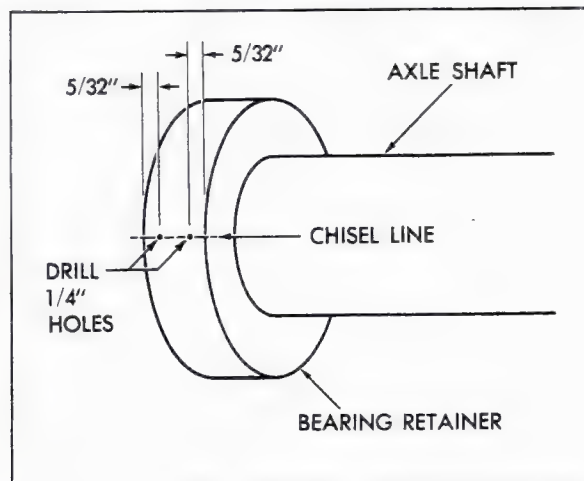

Fig. 4-30 Removing Bearing Retainer (698)
- a. Center punch location of drill holes on bearing retainer, following layout illustrated in Fig. 4-30.
- b. Drill two 1/4 inch holes, 1/2 inch deep, into side of bearing retainer, Fig. 4-30.
a. Center punch location of drill holes on bearing retainer, following layout illustrated in Fig. 4-30.
b. Drill two 1/4 inch holes, 1/2 inch deep, into side of bearing retainer, Fig. 4-30.